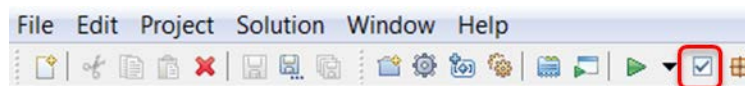

Figure 167: Run C/RTL Cosimulation Toolbar button
- When synthesis completes, use the **Run C/RTL Cosimulation** toolbar button (Figure 167) to launch the **Cosimulation Dialog** box.